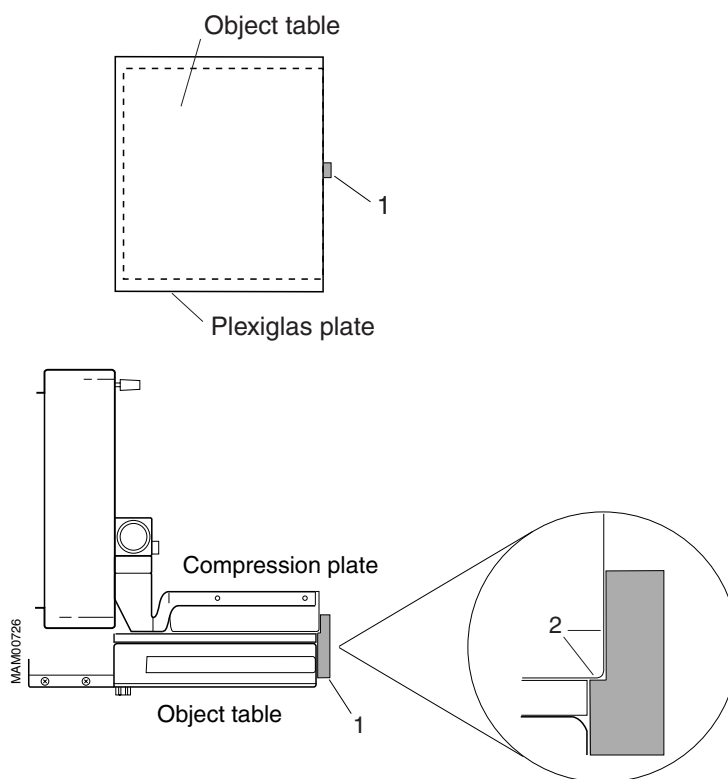

Fig. 2 View from above, from one side and a section
3. Lower the compression plate to the object table. Apply a compression force of 3 - 5 kg. The plastic tray will now adjust itself so that it lies flat against the Plexiglas plate. Attach the adhesive gauge block to the front of the object table (chest-wall side). Make sure the piece is perpendicular to the object table and laterally placed at the center of the compression table (1/Fig. 2).
4. Raise the compression unit and adjust the compression plate so that the bottom and the center fits the adhesive gauge block when a compression force of 3 - 5 kg is applied (2/Fig. 2).